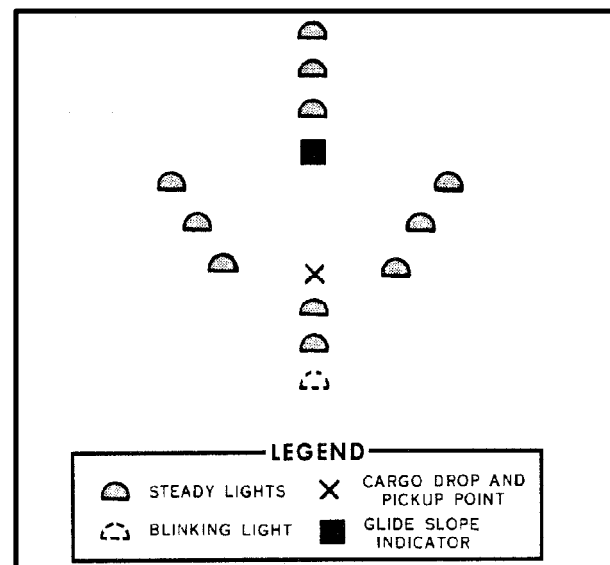

Figure 4-15. GAIL System
**i. Glide Angle Indicator Light (GAIL).** (USMC) The GAIL system is used whenever possible (Figure 4-15). The GAIL is positioned to project its beam along the preferred direction of approach. The glide path angle must provide clearance over the highest obstacle along the avenue of approach. Glide path angles from 3 to 8 degrees are common and acceptable. Angles greater than 8 degrees are considered too steep and could cause difficulty in maintaining the aircraft on the glide path. Since the GAIL has a narrow beam width, assist the pilot in finding it by placing additional lights in the landing site. Remember, the preferred direction of approach is into the wind. However, when the landing site size does not allow the glide path to be directed into the wind without exceeding 8 degrees, the GAIL system should be shifted left or right to a glide path of less than 8 degrees. Appendix C, Table 1, provides information on GAIL system lighting.